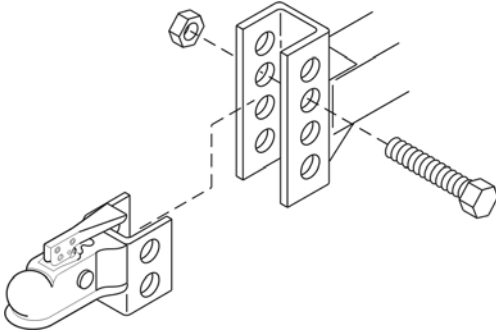

Figure 8-4. Combination Hitch Installation
- ❑ Insert the hitch coupler into the hitch bracket found at the end of the trailer tongue (Figure 8-4).